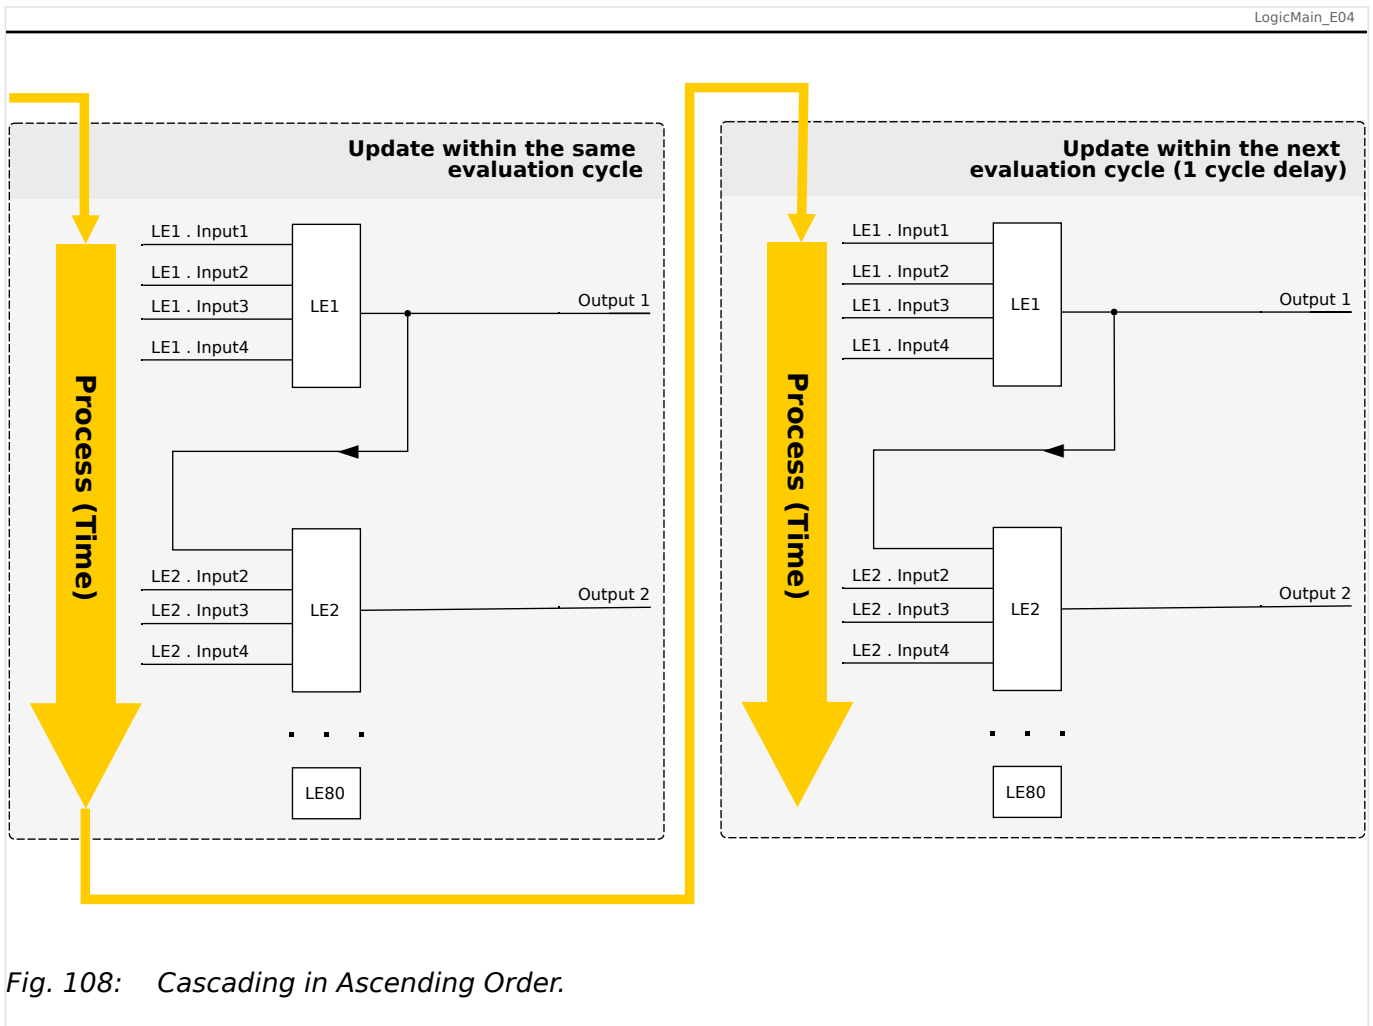
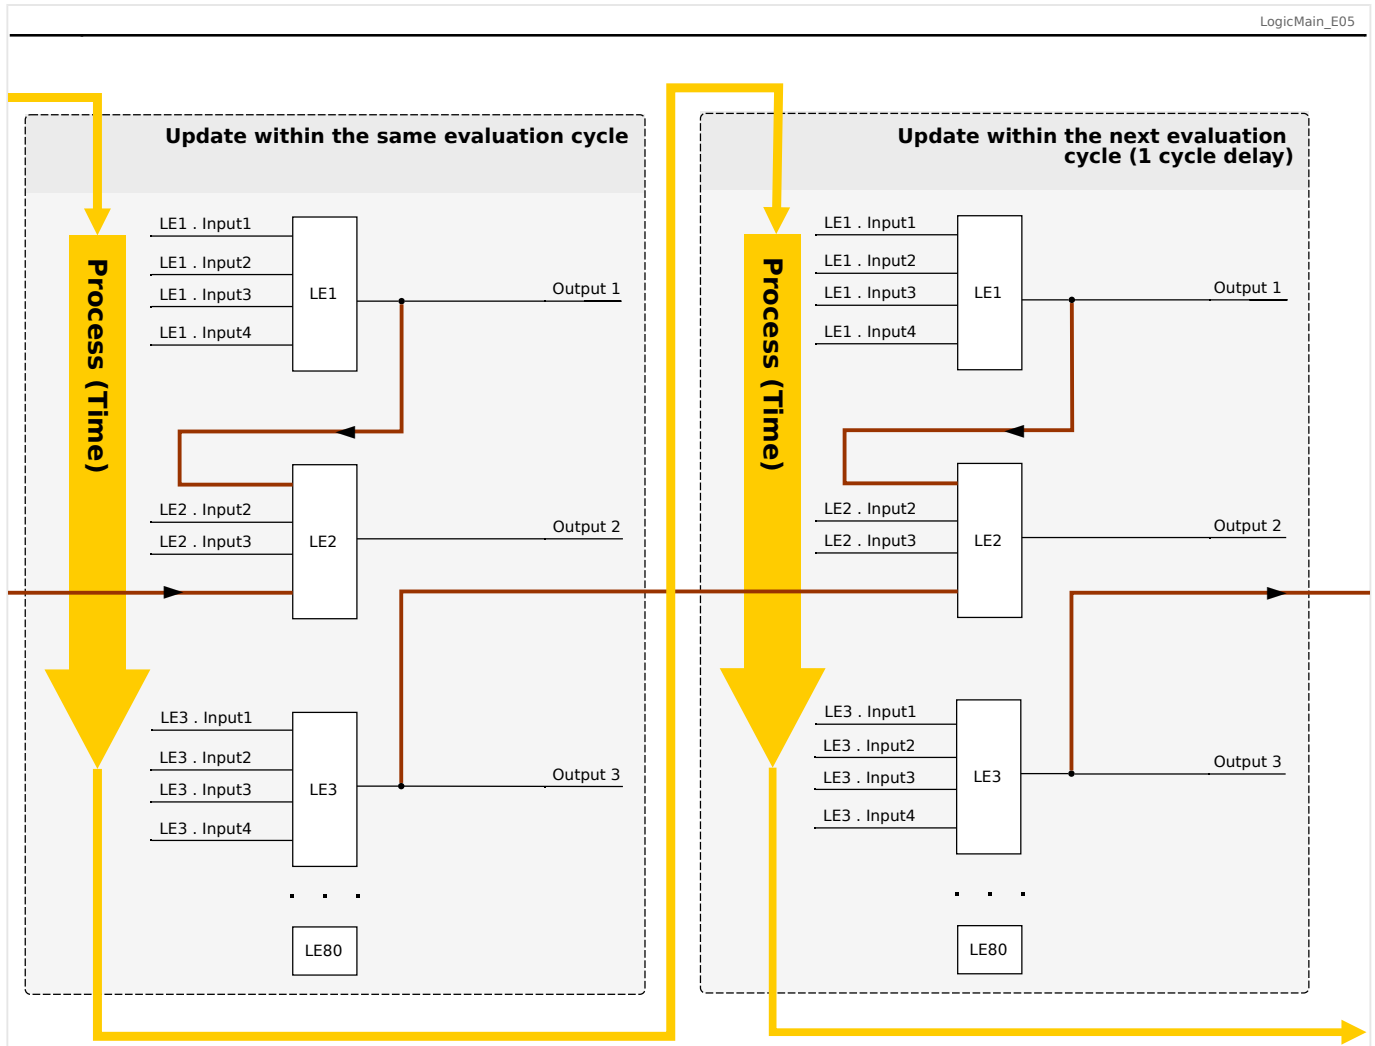

Fig. 108: Cascading in Ascending Order.
Fig. 109: Cascading in Descending Order.
- **Ascending** sequence means that some output is fed into the input of a logic equation with **higher** number. For instance, diagram  Fig. 108 below shows an example where the result of Logic Equation LE1 is used as an input of Logic Equation LE2.
- **Descending** sequence means that some output is fed into the input of a logic equation with **lower** number. For instance, diagram  Fig. 109 shows an example where the result of Logic Equation LE3 is used as an input of Logic Equation LE2.
Both ascending and descending sequences may be used and combined one with the other, with no immediate difference. However, due to the evaluation of all equations in ascending order the actual run-time values that are fed in at the input of an equation will have a different “age”, as is shown in  Fig. 108 and  Fig. 109 below.
In the example shown in Fig. 109 above, “Logic Equation 2” uses the output states of two other equations, “Logic Equation 1” and “Logic Equation 3”. The result of “Logic Equation 1” is used in ascending order and has therefore been evaluated within the same process cycle. The result of “Logic Equation 3” is used in descending order and has therefore been evaluated in the previous process cycle.